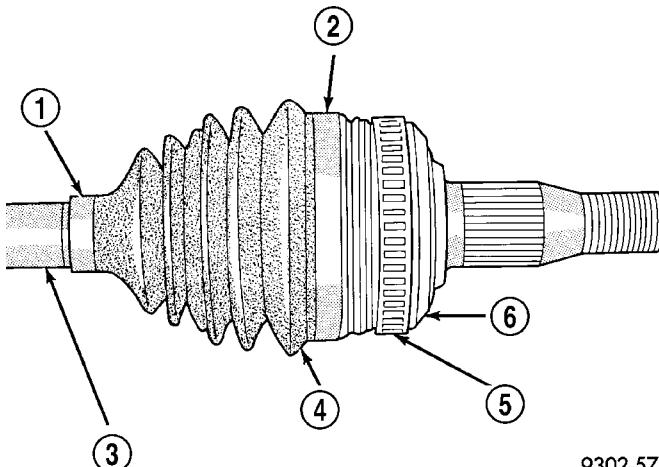

Fig. 30 Outer C/V Joint Seal Boot Clamps
(1) Remove the halfshaft requiring boot replacement from the vehicle. (Refer to 3 - DIFFERENTIAL & DRIVELINE/HALF SHAFT - REMOVAL) (Refer to 3 - DIFFERENTIAL & DRIVELINE/HALF SHAFT - INSTALLATION)
(2) Remove large boot clamp, retaining C/V joint sealing boot, to C/V joint housing (Fig. 30) and discard. Remove small clamp which retains outer C/V joint sealing boot to interconnecting shaft and discard. Remove sealing boot from outer C/V joint housing and slide it down interconnecting shaft.